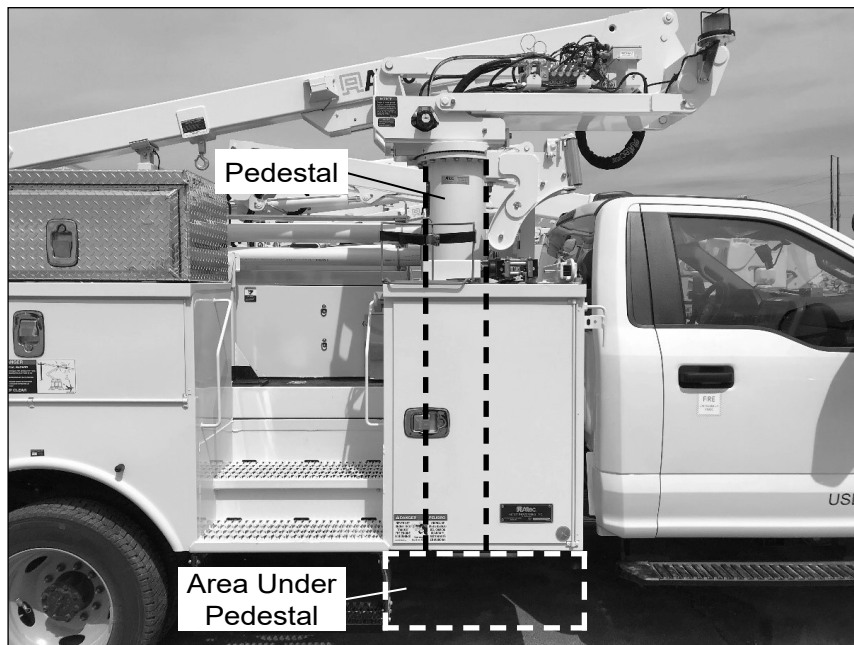

Figure 1 – Accessing Area Under Pedestal
3. Slide under either side of the chassis on a creeper to access the area under the pedestal (refer to Figure 1).